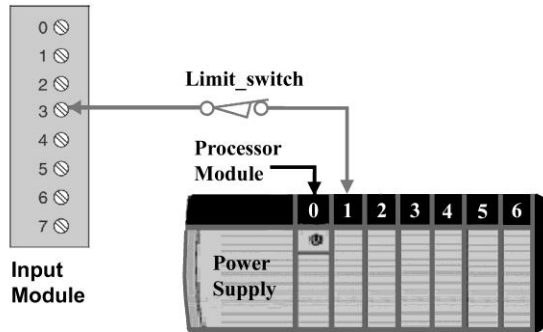

Figure 15-6 Tag-based address for question 7.
7. The physical address for the tag Limit_switch of Figure 15-6 would be 7. _____